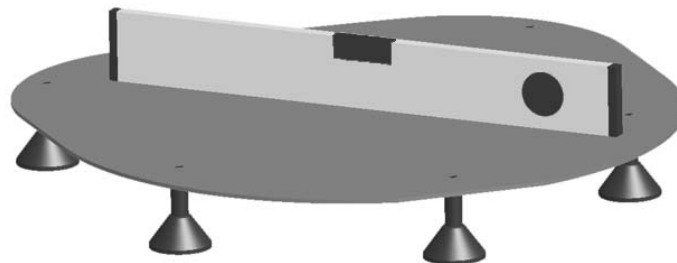

Figure 4. Spirit level check
6. Check that the support base sits flat using a spirit level as shown in according to 'Figure 4. Spirit level check'.